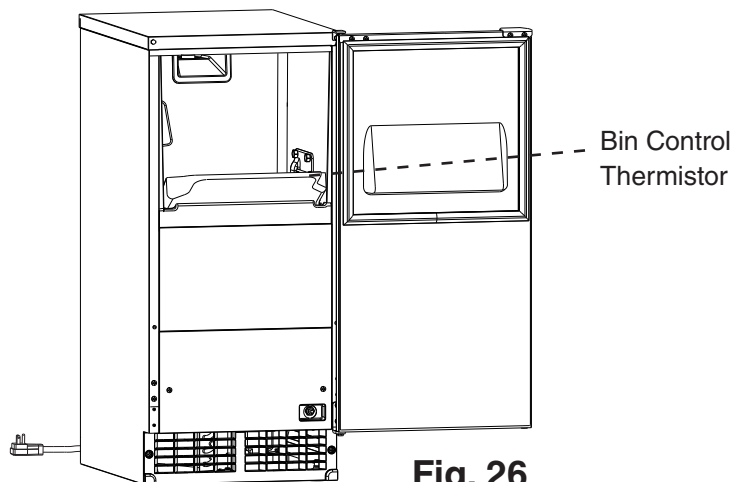

Fig. 26
- 6) At the end of the 30 min. run time, confirm bin control operation, by holding ice in contact with the bin control thermistor. See Fig. 26. The appliance shuts down within 30 sec. Remove the ice. After 30 sec. the appliance restarts the automatic icemaking process.